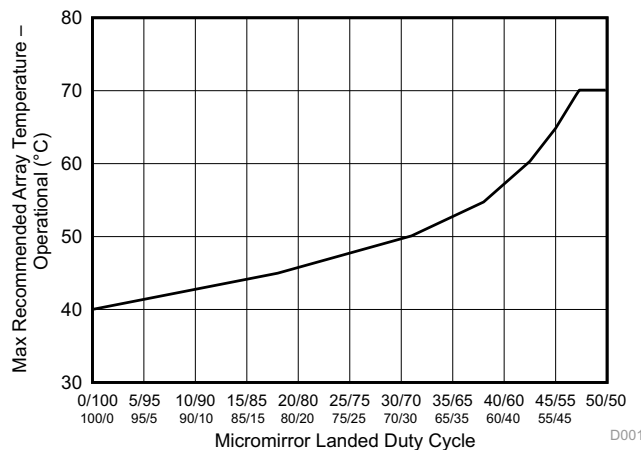

Figure 1. Max Recommended Array Temperature - Derating Curve
- (5) Per Figure 1, the maximum operational array temperature should be derated based on the micromirror landed duty cycle that the DMD experiences in the end application. Refer to Micromirror Landed-On/Landed-Off Duty Cycle for a definition of micromirror landed duty cycle.
- (6) Long-term is defined as the usable life of the device
- (7) Array temperatures beyond those specified as long-term are recommended for short-term conditions only (power-up). Short-term is defined as cumulative time over the usable life of the device and is less than 500 hours for temperatures between the long-term maximum and 75°C, and less than 500 hours for temperatures between 0°C and –20°C.